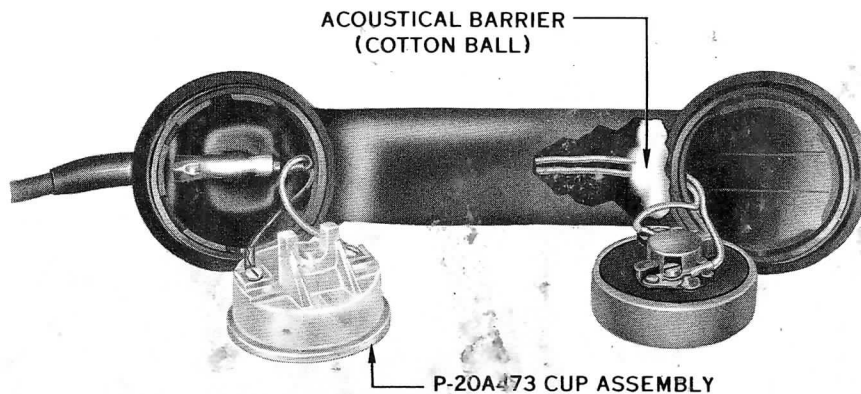

Fig. 31 – G3-Type Hand Set, Placement of Acoustical Barrier
3.16 The G3- and G5-type hand sets are serviced the same as other G-type hand sets except when replacing cord the cotton ball (acoustical barrier) must be reinserted as shown in Fig. 31. The cotton ball should not extend into receiver bowl.